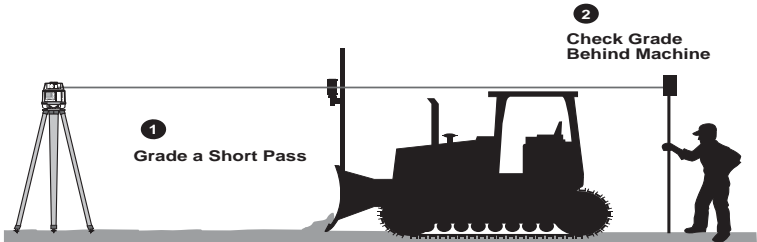

Figure 4-3. Grade a Short Pass, Then Check Grade
5. Using the grade rod and detector, check the grade cut behind the machine (Figure 4-3).